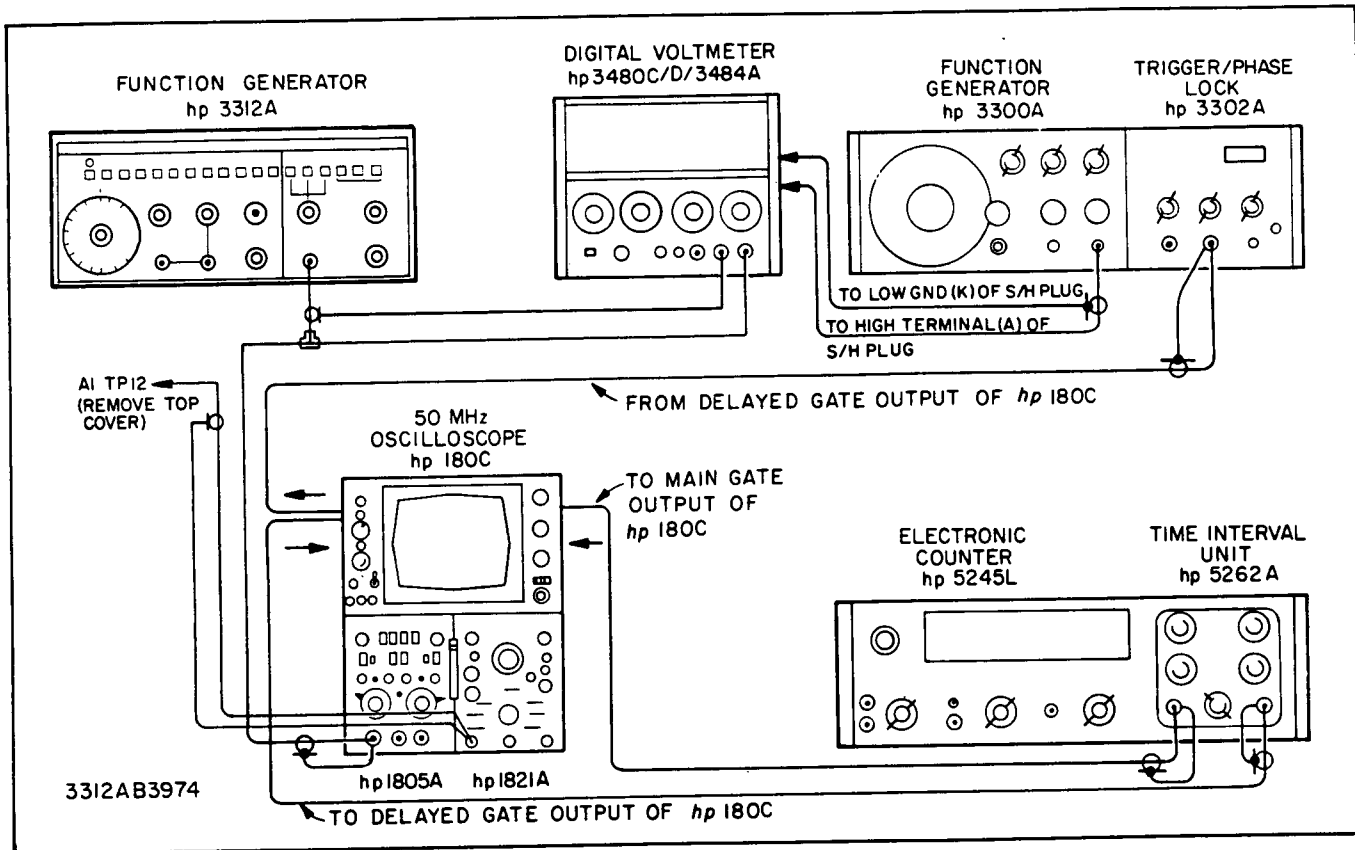

Figure 5-4. Sweep Ramp Linearity Test.
a. Connect the equipment as shown in Figure 5-4 and set the 3312A modulation control to SWP. Set the SYM control to CAL.